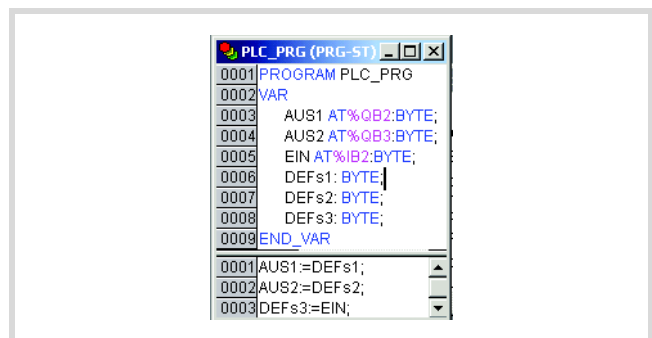

Figure 90: User program for XC100
- Create the program in accordance with Figure 90.